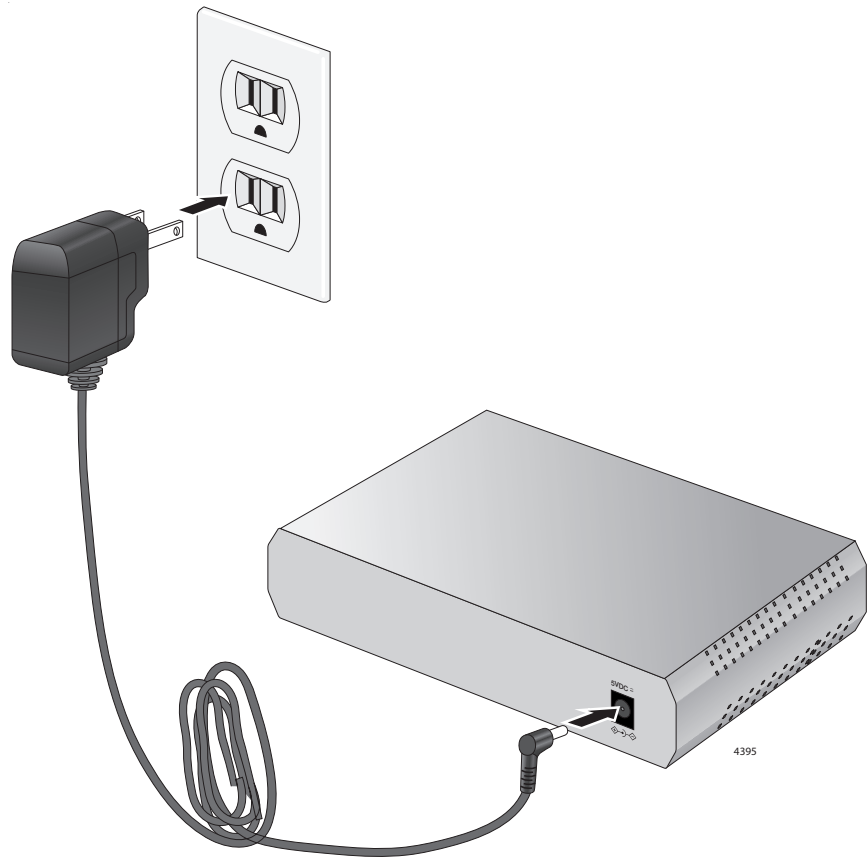

Figure 39. Plug Power Cord into Rear Panel DC Connector
4. Insert the DC power plug into the DC power plug of your FS710 Series switch and the AC power plug into the AC power wall receptacle as shown in Figure 39.